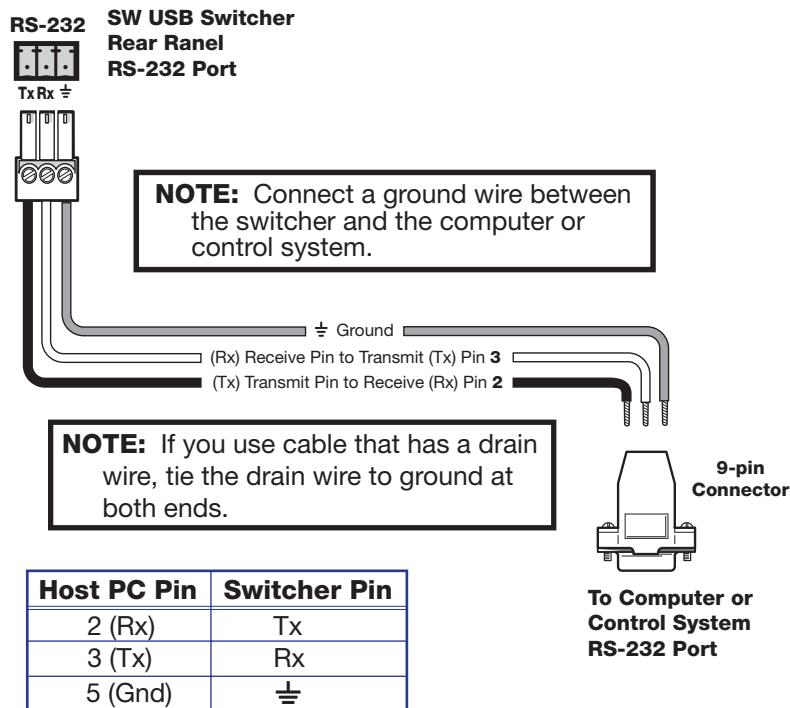

Figure 7. Wiring the RS-232 Connector
2. Connect the SW USB RS-232 Pass Thru port to the RS-232 port on the AV switcher (see figure 7 on the next page).